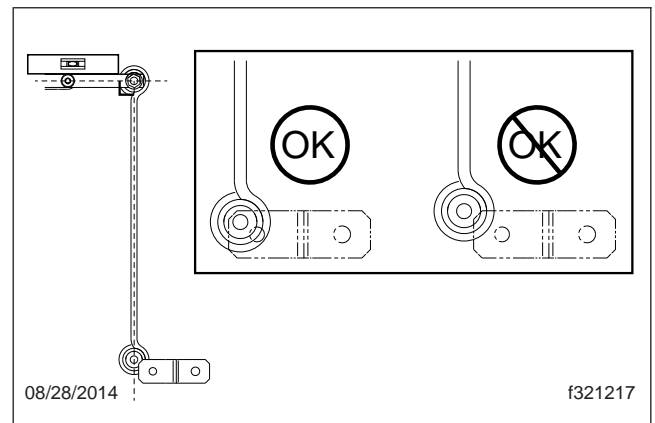

Fig. 4, Permissible Variation in Z-Bracket Position
- 7.3 With the height sensor arm level and the linkage rod at 90°, check if the linkage end hole is within the perimeter of the Z-bracket mounting face. See **Fig. 4**.
If the end hole is within the perimeter of the Z-bracket mounting face, as shown in **Fig. 4**, the component positions are sufficient. No further work is necessary.
If the end hole is not within the perimeter of the Z-bracket mounting face, as shown in **Fig. 4**, install a new Z-bracket in the correct position. See **Positioning the Z-Bracket**.